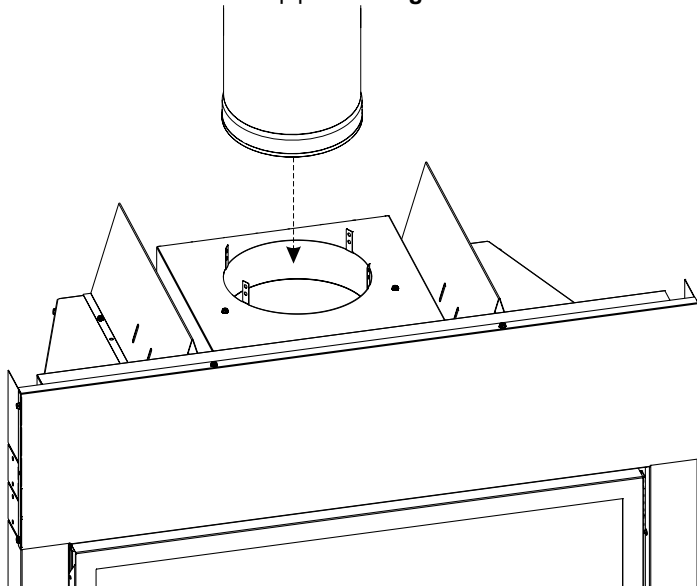

Figure 21
2. Insert the first piece of pipe and secure with 4 screws through the tabs and into the pipe. See Figures 21 and 22.